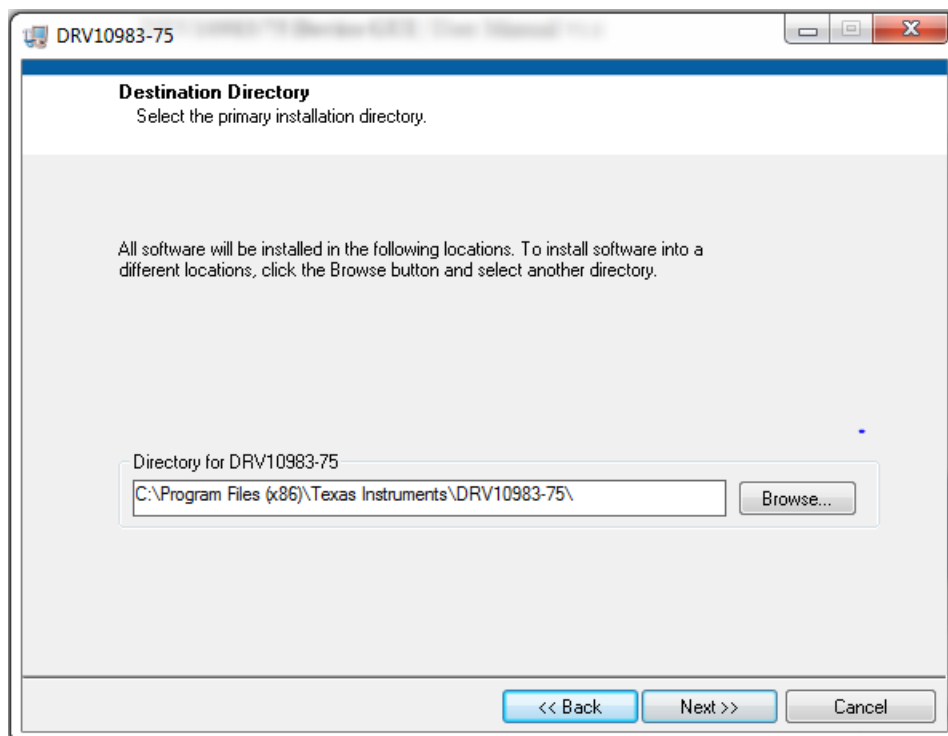

Figure 12. GUI Destination Directory
2. Set the destination directories for the GUI installation and press the *Next >>* button as shown in Figure 12. It is recommended to keep the default values as provided in the installer.